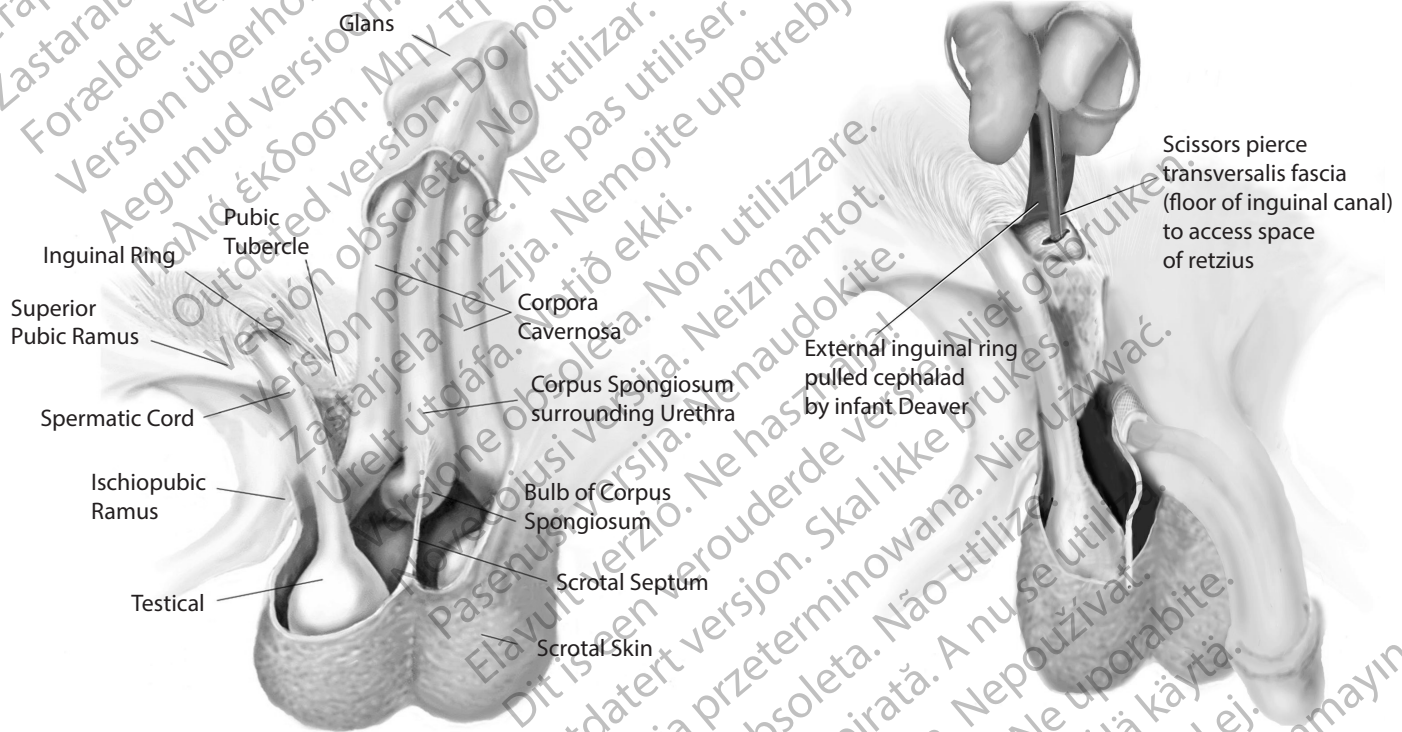

Figure 4-21.
- a. Empty the bladder, remove the Scott retractor and displace the scrotal incision to the side of the penis. Place the PRB in the retro-pubic space by locating the inguinal ring and piercing the transversalis fascia. After PRB implantation, narrow the opening by placing an absorbable suture. (Figure 4-21)